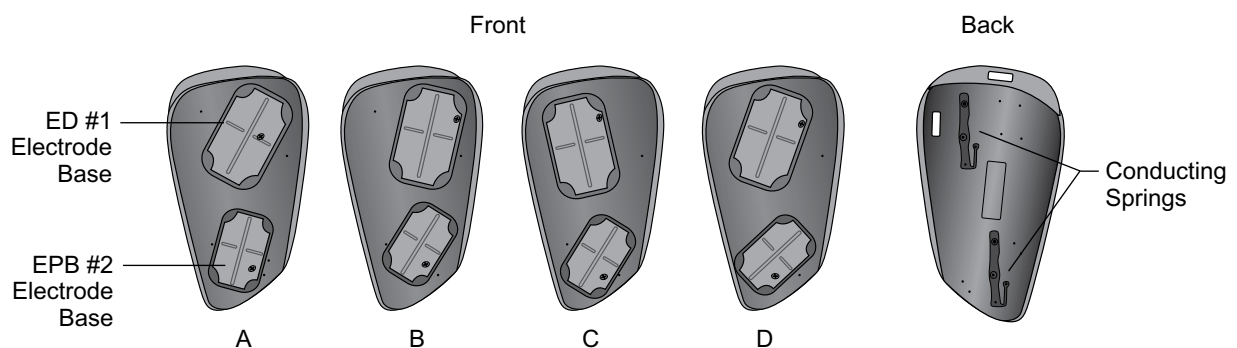

Figure 5-4: Extensor Fitting Panels
The extensor fitting panels are available in right (Rt) and left (Lt) configurations, and in four electrode base configurations: A, B, C, and D. See Figure 5-4.
Each extensor fitting panel has two electrode bases (Extensor Digitorum (ED) #1 and Extensor Pollicis Brevis (EPB) #2) on one side and two conducting springs on the other side. See Figure 5-4. The conducting springs make electrical contact with the #1 and #2 electrode base sockets on the Orthosis.